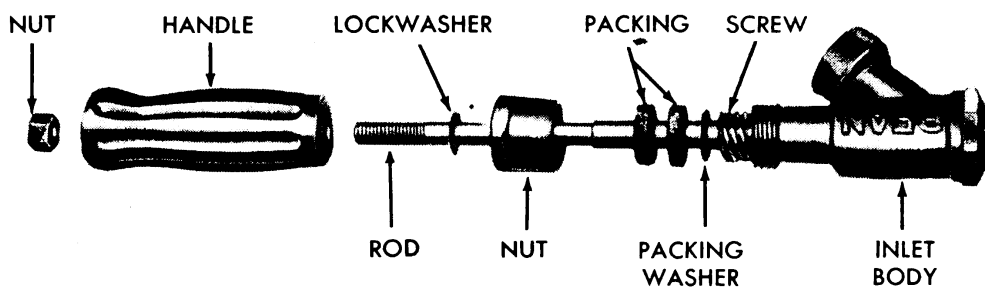

Figure 44—Spray Gun Packing
- (2) Remove disc and replace with disc of desired size.
- (3) Install nozzle gasket and nut.
b. To Repack Spray Gun Valve. (See figure 44.)
- (1) Remove handle retaining nut.
- (2) Unscrew and remove handle.
- (3) Unscrew and remove packing retainer.
- (4) Remove old packing rings and replace with two new packing rings.
- (5) Install packing retainer.
- (6) Install handle and lock with retaining nut.